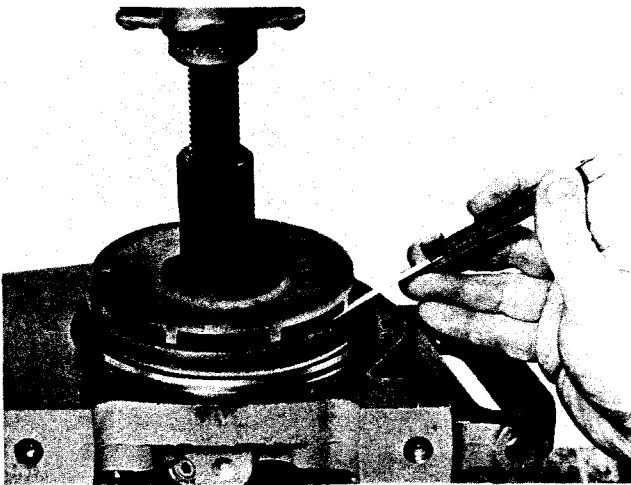

Fig. 8-11, (N10892). Checking impeller clearance
between impeller vanes and housings. Fig. 8-11.
- a. Apply a thin coat of Loctite 601 to inside diameter of impeller (13). Support water pump on pulley end of shaft and press impeller on shaft, maintaining 0.020 to 0.040 inch [0.51 to 1.02 mm] clearance between impeller vanes and water pump housing. Fig. 8-11.